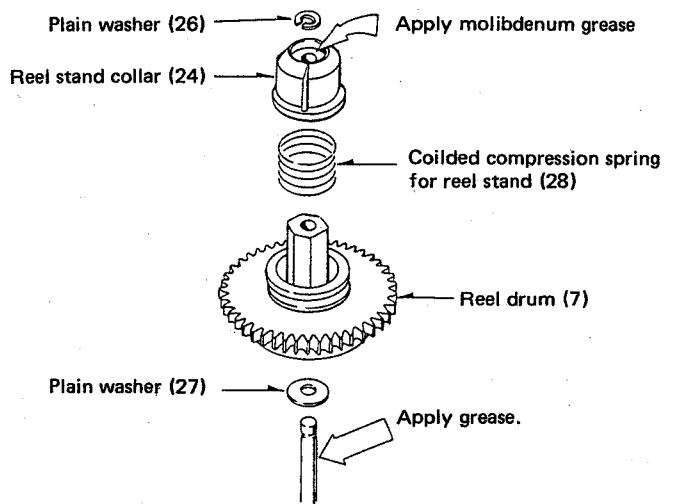

Fig. 3
- 1) Fig. 3 shows the structure of the reel drum (7).